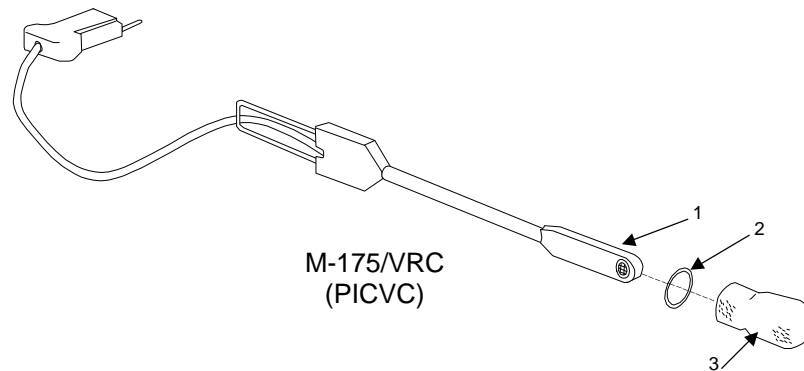

Figure 3-13. Microphone, Boom, and Cable Assembly
3.8.3. Windscreen and O-Ring Removal and Replacement (M-175/VRC, Fig. 3-13)